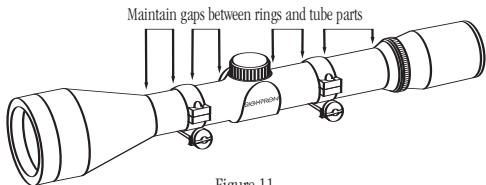
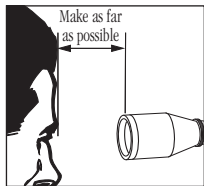

Figure 11.
Figure 12.
1. Place both rings on your mount base or receiver, and tighten slightly. Remove the top half of the rings and place the scope in the bottom half of the rings. Once you have determined proper ring spacing (see Figure 11) and eye relief (see Fig. 12), tighten the top half of the rings.